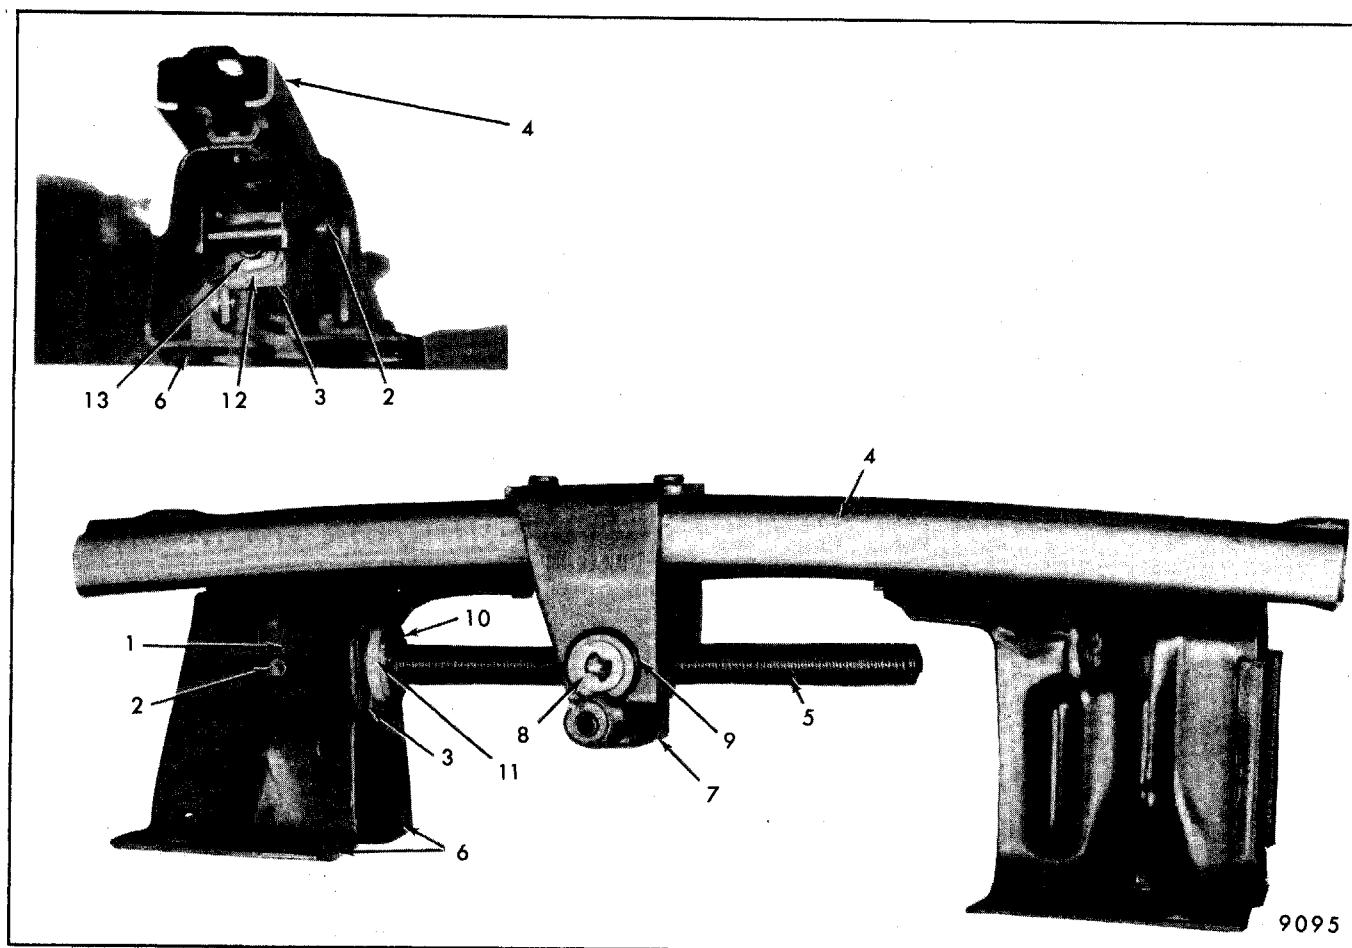

Fig. 9-51-Power Operated Horizontal (Two-Way) Seat Adjuster Components
Horizontal Jackscrew and/or Gearnut Assembly - Power Two-Way Seats - Removal and Installation (Refer to Fig. 9-51)
2. Using a suitable tool (preferably a clutch type screwdriver or equivalent), remove two shoulder screws (clutch type) securing gearnut to upper channel to seat adjuster assembly (Fig. 9-51).